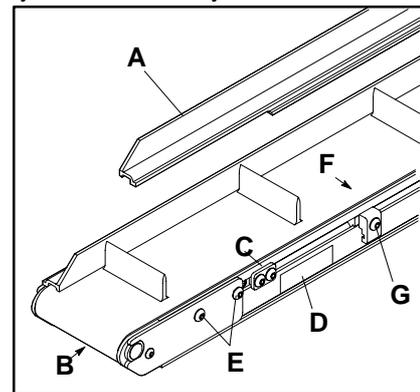

Figure 7
Begin by loosening (but not removing) the screws which secure the guide clamps (G of Figure 7) on the side of the conveyor opposite the drive package. Remove the belt guide(s) (A) from the conveyor.